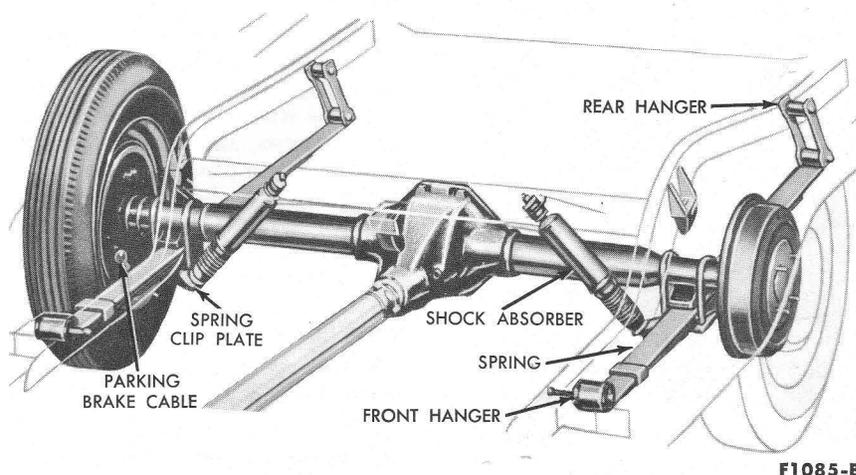

FIG. 7—Rear Suspension Assembly
2. Disconnect the parking brake cable spring (Fig. 7) from the outer spring clip.
5. Remove the front hanger stud from the forward end of the spring (Fig. 7).
1. Disconnect the shock absorber from the spring clip plate (Fig. 7).